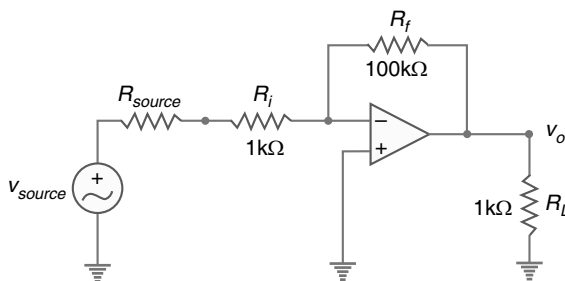

Fig. 23.54
**Example 23.31.** Fig. 23.54 shows an inverting OP-amp. Find the closed-loop gain if (i)  $R_{source} = 0 \Omega$  (ii)  $R_{source} = 1 \text{ k}\Omega$ .